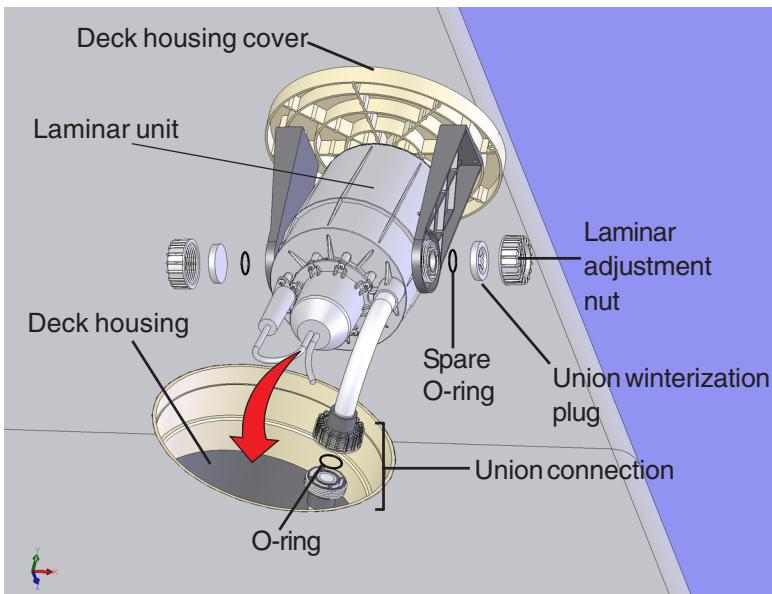

Figure 5
2. Make sure the spare o-rings are in place. Place the union winterization plugs in the Laminar adjustment nuts and screw them in place on the Laminar body (Figure 5).
3. Connect the Laminar to the supply pipe with the union connection (Figure 5). Make sure the o-ring stays in its groove.
5. Place the deck housing lid/Laminar unit in the deck housing (Figure 5). If the hoses in the deck housing prevent the proper seating of the deck housing lid, you may have to loosen the union nut briefly and allow the hoses to twist, so that they spiral out of the way, into the deck housing.